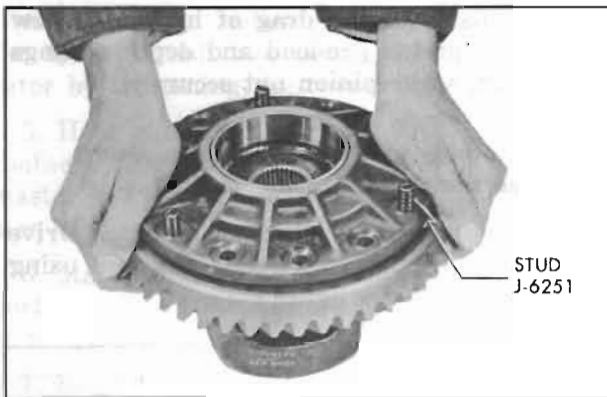

Figure 6-34—Installing Ring Gear on Differential Case
4. After making sure that mating surfaces of case and ring gear are clean and free of burrs, bolt ring gear to case using three Studs J-6251 to align parts. See figure 6-34. If same ring gear and case are used, line up marks so they are assembled in same relative positions.